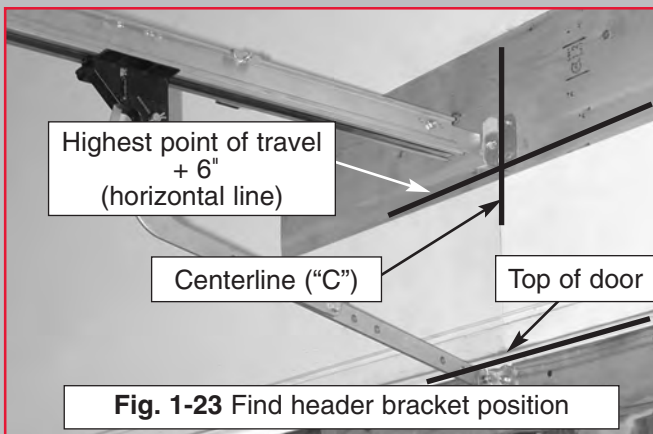

Fig. 1-23 Find header bracket position
- Add 6 inches to distance “H” (Fig.1-23).
- Set flange (where boom strap attaches to bracket) on your vertical line (Fig. 1-23).